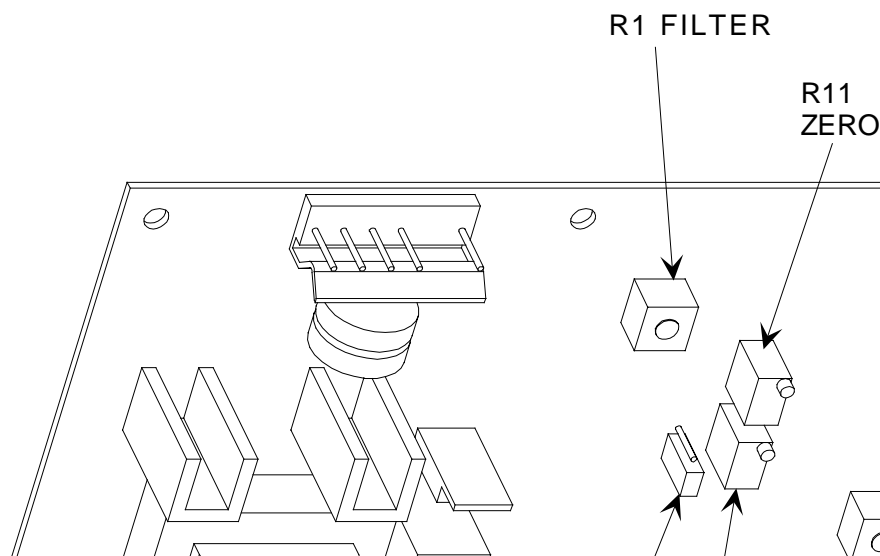

Figure 4-6 Motor Positioner Board
2. Remove jumper W2 from the circuit board and set it aside for later replacement. (See Figure 4-6.)